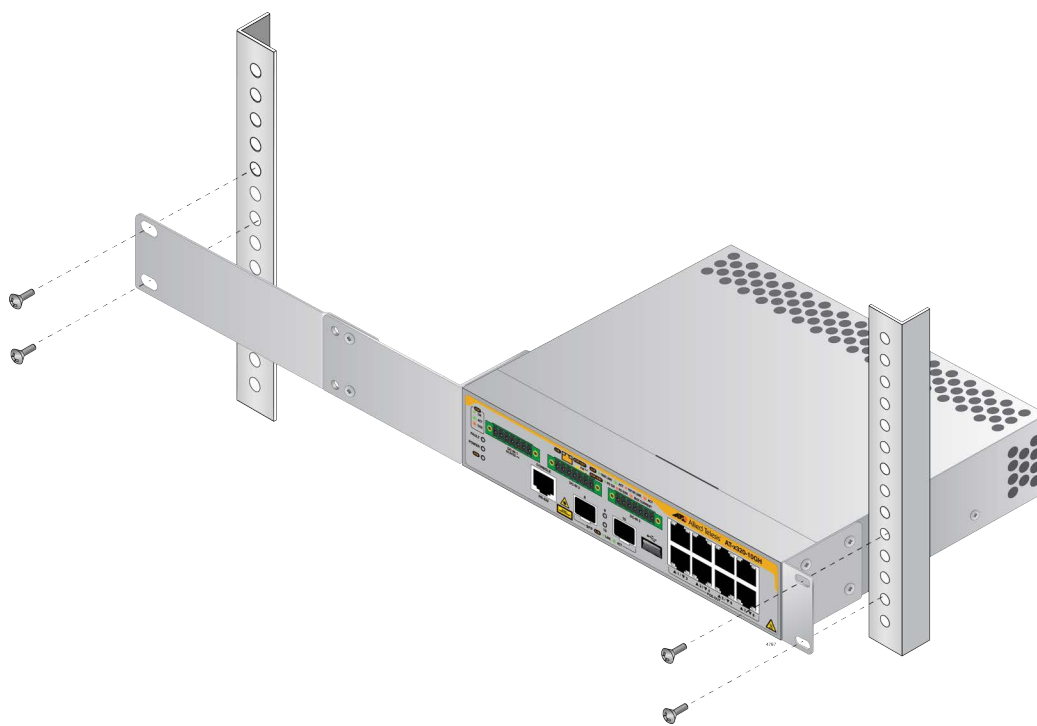

Figure 32. Installing the Device in an Equipment Rack
4. Have another person hold the device in the equipment rack at the desired location while you secure it using four standard equipment rack screws (not provided). Refer to Figure 32.